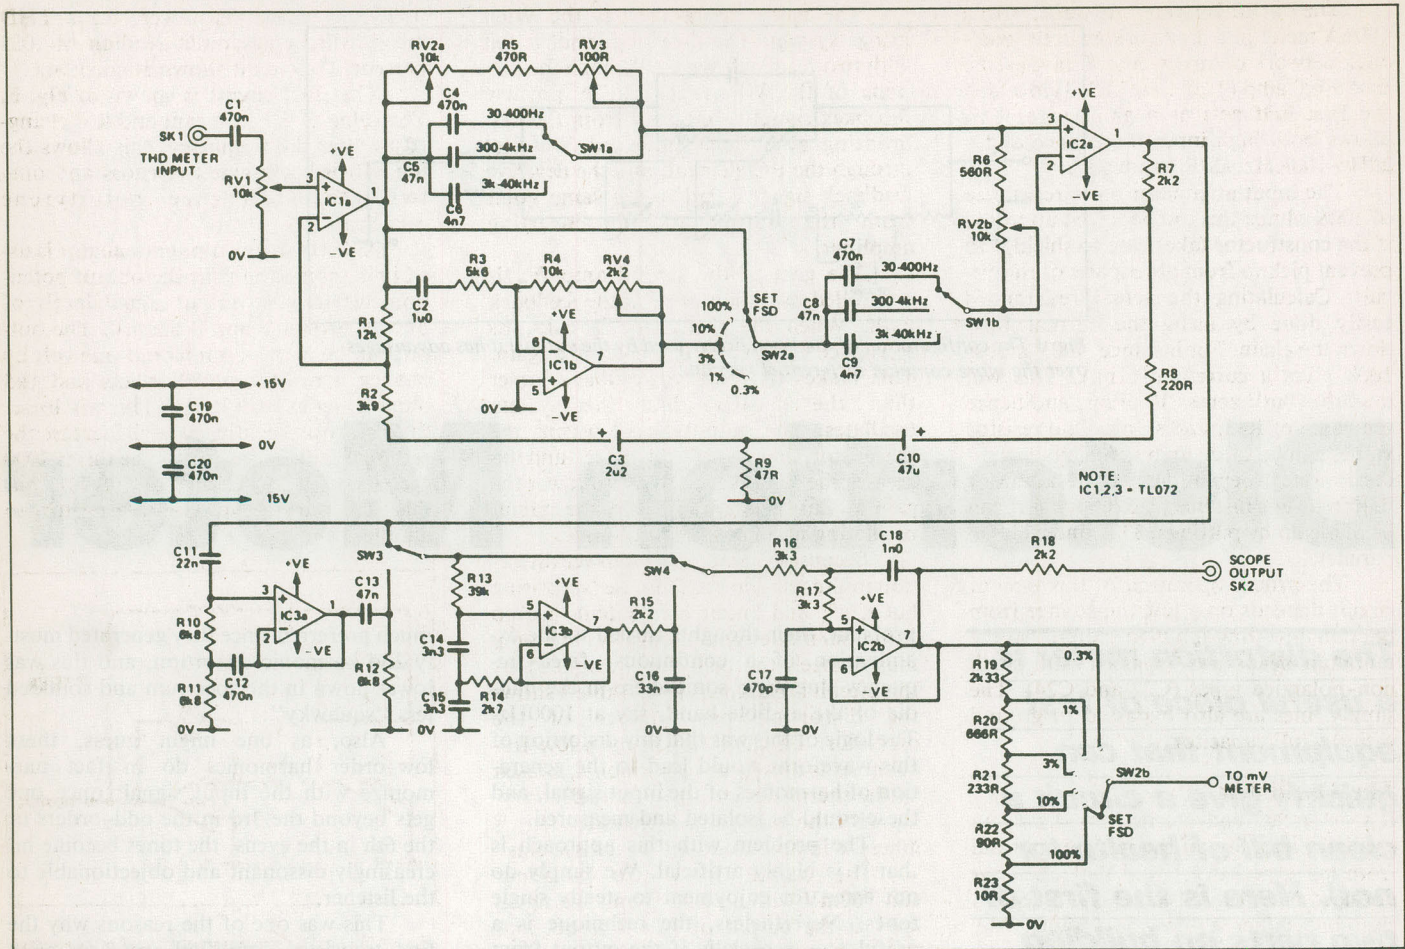

Fig. 2 The final circuit diagram of THD meter.
The basic layout of the meter is shown in Fig. 1 and the circuit diagram in Fig. 2. The total circuit consists of the meter, a millivoltmeter, a built-in
In Fig. 2, RV1 acts as a gain control in the input circuit of IC1a, a buffer stage that ensures that the Wien network is always driven from a low impedance. From the output of this the signal is divided into three paths, the upper RC parallel network, the inverter stage, and a feed to the mode switch SW2, which allows the network to be bypassed for setting the full scale meter reading.
*Fig. 2 LED operation. (a) For use with AC, a silicon diode must be connected across the LED terminals as shown. (b) The two-colour LED uses two LED junctions connected in opposite direction. (c) The tri-colour LED uses separate LEDs with a common cathode connection.*